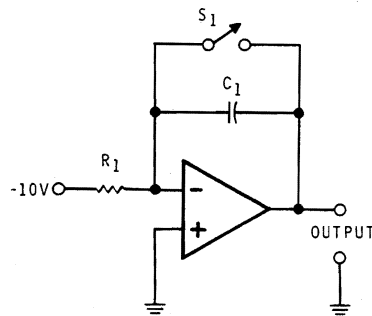

Figure 6-84
16. Refer to Figure 6-84. This circuit will produce a: